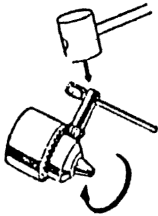

FIG. 1
1. Place chuck key in chuck as shown in Figure 1. Using a wooden mallet or similar object, strike key sharply in a CLOCKWISE direction. This will loosen screw inside chuck (Figure 1).